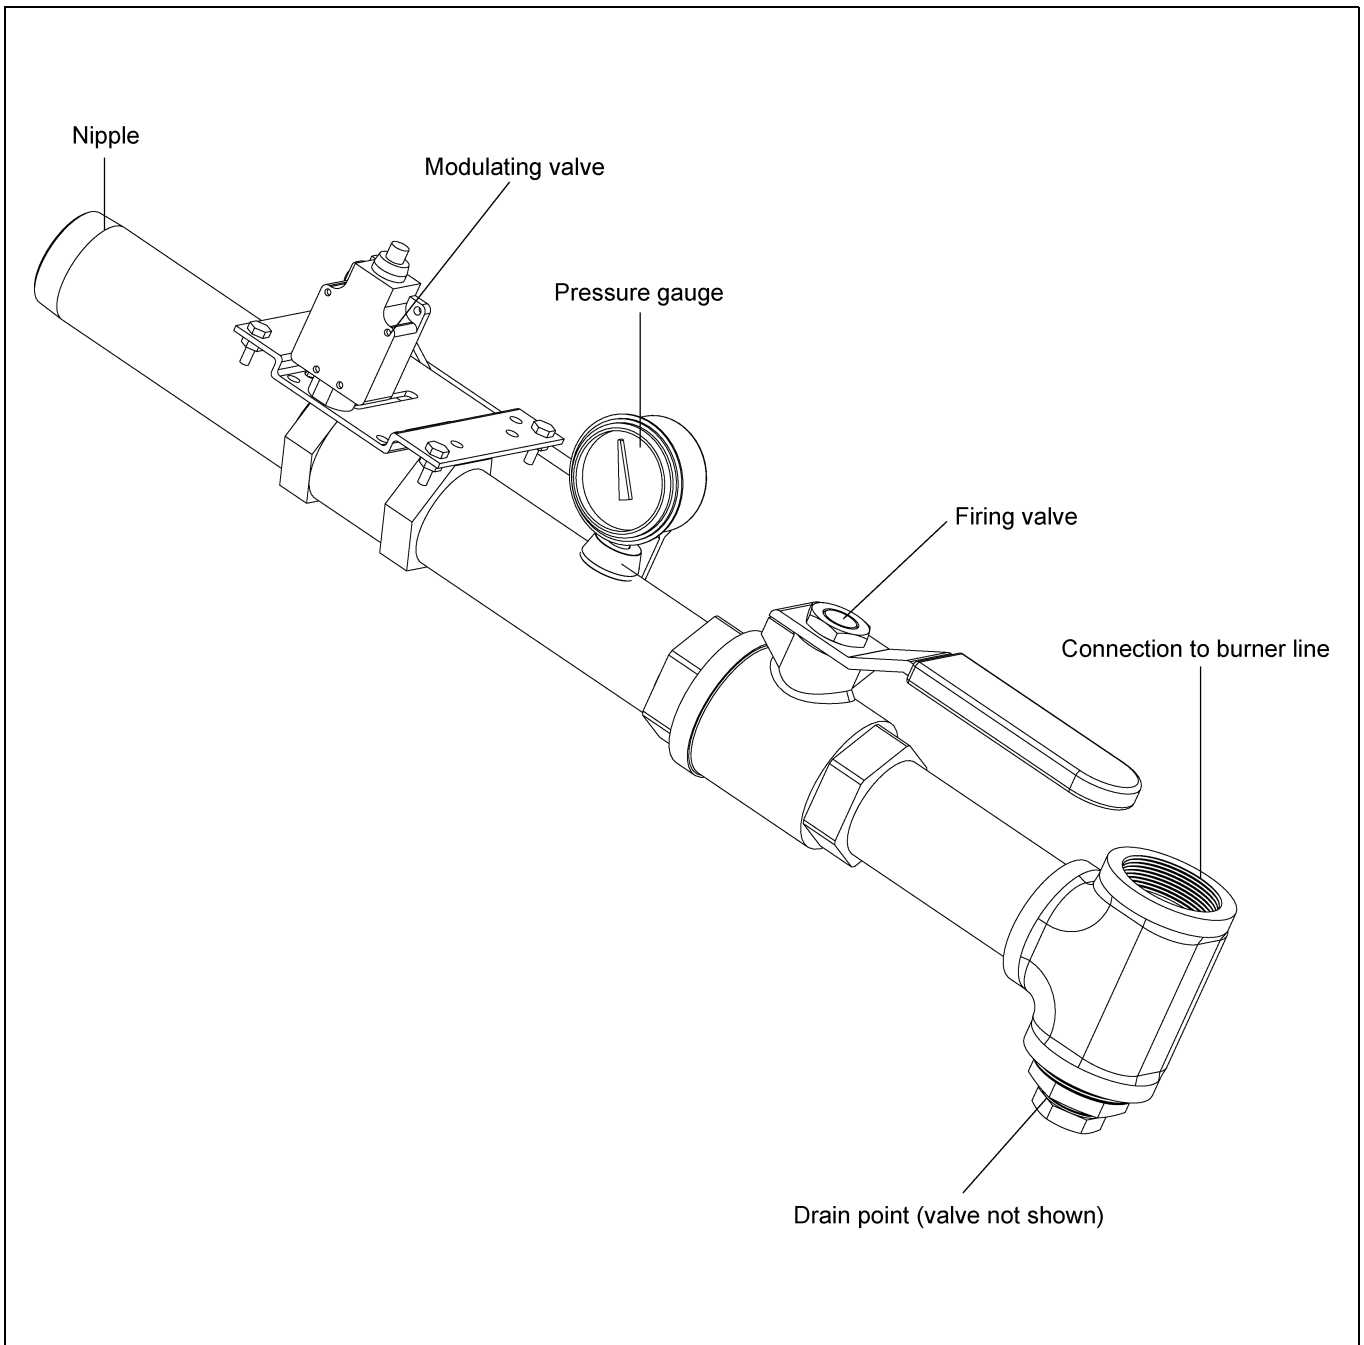

Figure 7G Modulator Section (Modulating Motor Not Shown)
- h. When the plenum reaches set point, adjust the MINIMUM setting on the modulating valve *(See Figure 7G on Page 43)* to the required setting. *(See Table on Page 15.)*